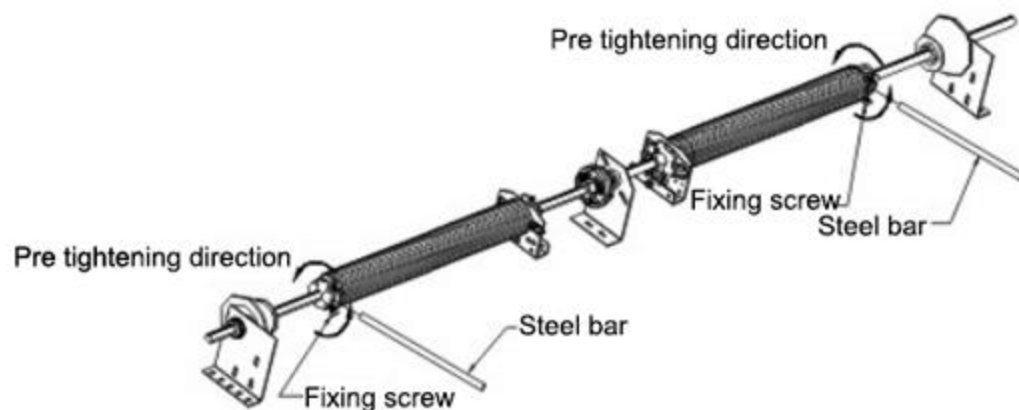

Figure 11-1
11. Pre-tightened torsion spring (Figure 11-1)